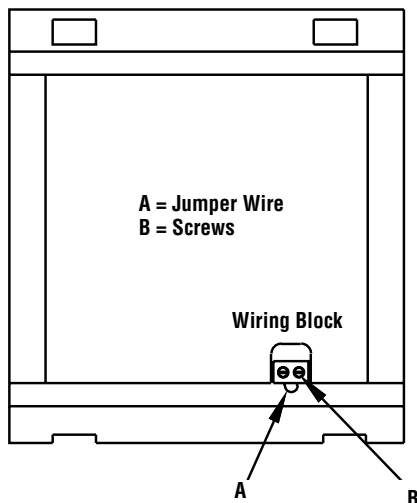

Figure 13
1. Unplug the insert from the electrical outlet. Open the right side door and lift out the control board from its retaining brackets. Locate the light green wiring block at the bottom back of the board (see **Figure 13**), loosen the two screws B at the back of the block, and remove the U shaped jumper wire A protruding from the block.